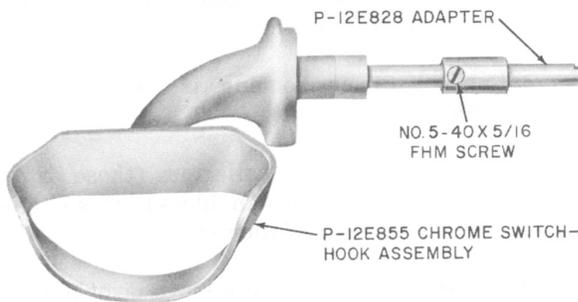

Fig. 5 — 2-Piece Switch Hook Assembly
(1) Disassemble switch hook (Fig. 5).
(2) Place adapter shaft in right bearing of backplate.
(3) Place switch hook shaft in left bearing of backplate.
(4) Slide shaft into socket of adapter shaft.
(5) Fasten parts together with flat head screw provided.
(6) Replace gate operating arm lock washer and hex head machine screw.